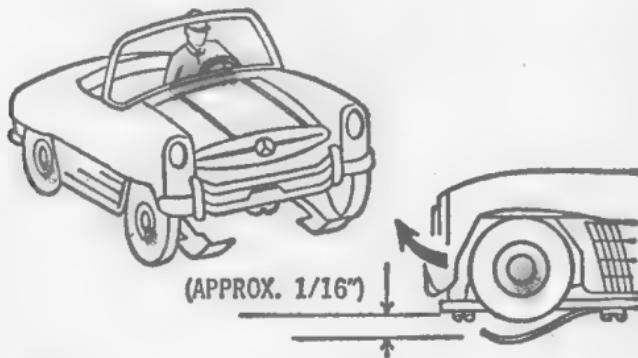

Fig. 53
1. The height of the brushes must be approximately $1/16$ of an inch below the tires (Figure 53).
2. Brush adjustment—Figure 53.